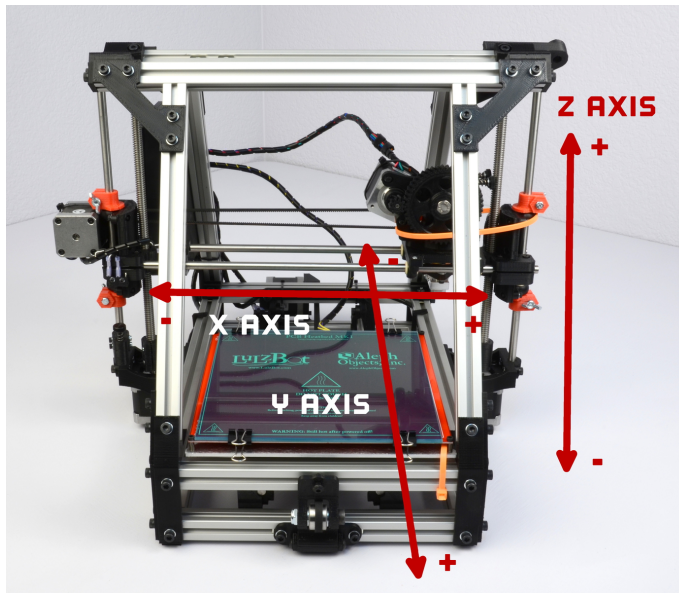
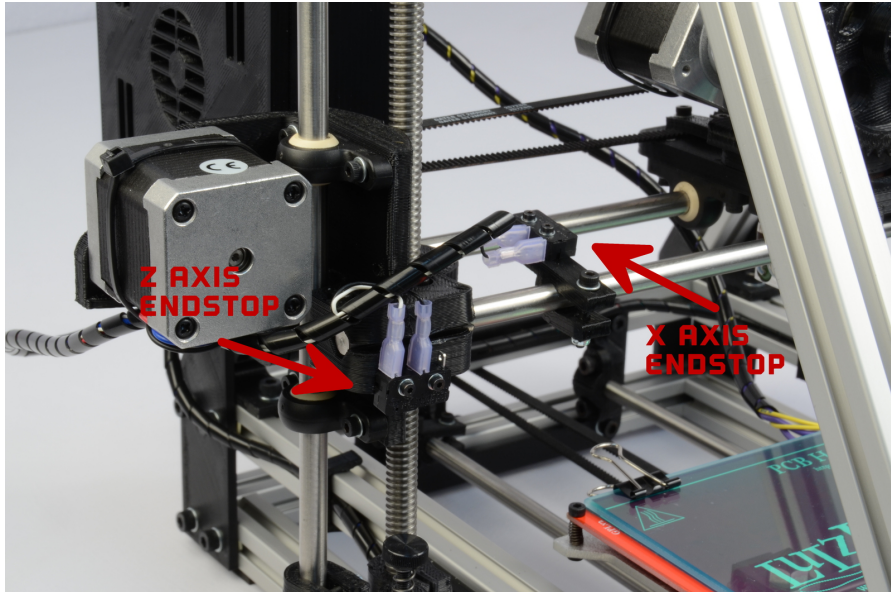
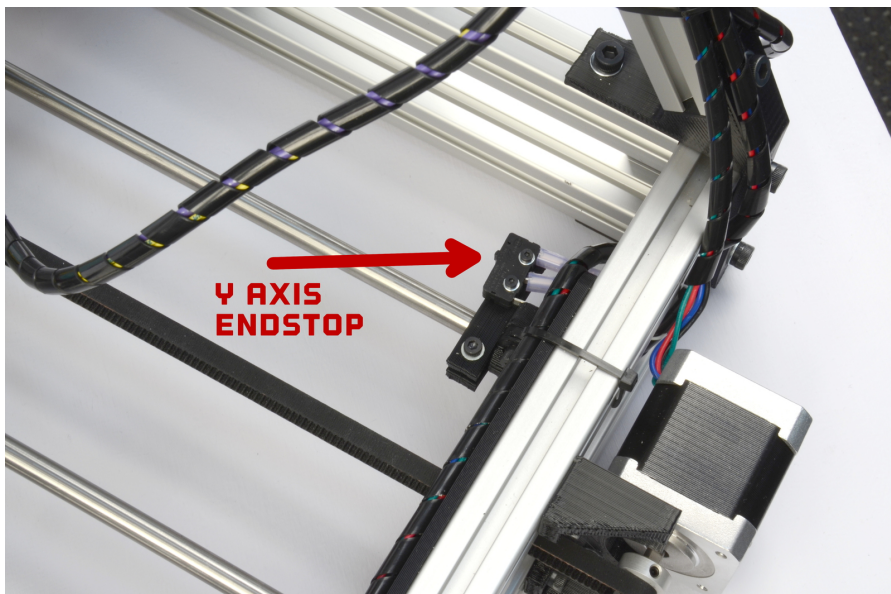

Figure 2.1: Axes movement directions
Figure 2.2: X and Z end stop locations
Figure 2.3: Y end stop location
3. Check that the three mechanical end stops are aligned to contact with the respective ends. The mechanical end stops are small switches located at the home point of each axis. (Fig. 2.1, page 16; Fig. 2.2, page 17; Fig. 2.3, page 17).